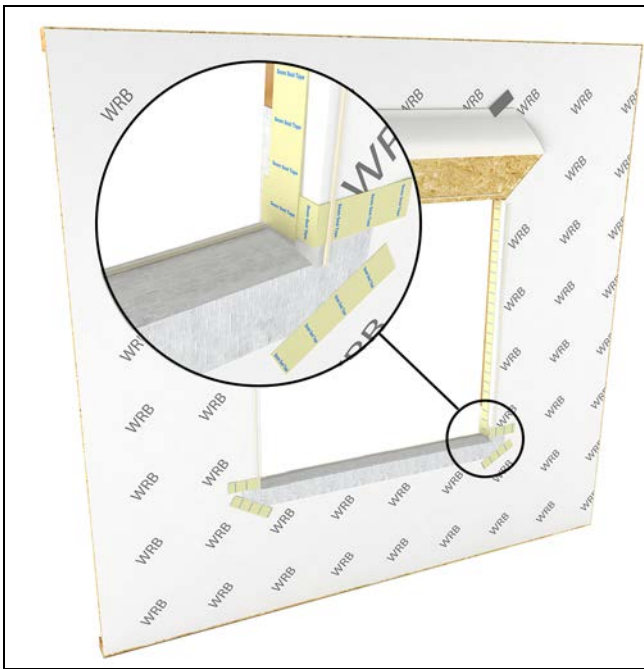

Figure 16
7. Apply seam seal tape over the corners. Place plastic or composite shims at the ends and in the middle of the RO to counter the slope of the sill wedge and support the unit. Fasten with adhesive or finish nails. If using finish nails, place adhesive under shim where the nail will penetrate. See Figure 16.